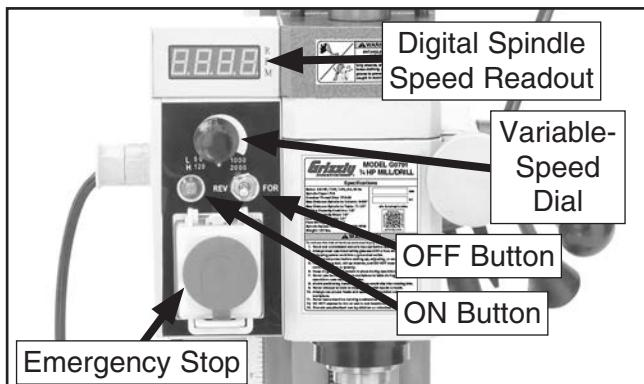

Figure 11. Location of mill/drill controls (front).
4. Press red Emergency Stop button (see **Figure 11** on **Page 18**).